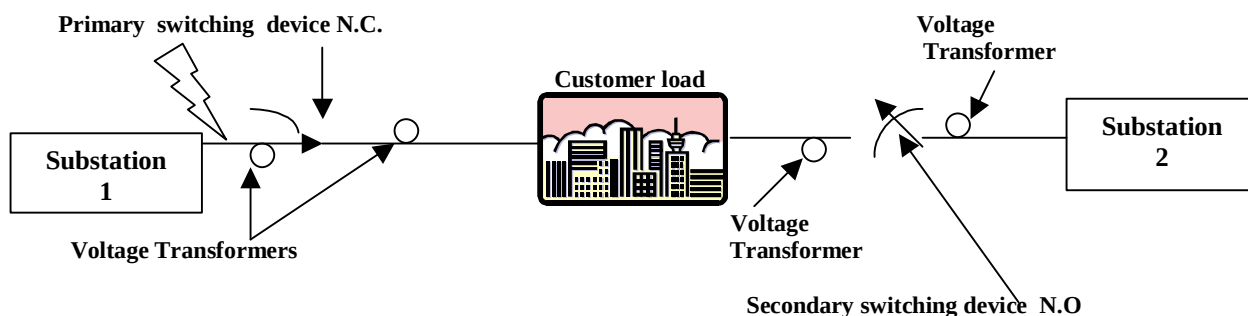

Figure 2
- a. A fault occurs between substation one and the primary switching point (see Figure 2). After the circuit breaker in substation one goes to its reclose sequence and lockout, the PCD control in the recloser at the primary switching point will detect loss of voltage (27-3P) and open the recloser after a predetermined set time. At this point, the PCD control in this recloser will switch from the Primary settings program to Alternate 1 settings program. The recloser at the secondary switching point will sense loss of voltage (27-3P) from the load side and if voltage is still present (59-3P) at the source side (from substation two), it will close after a predetermined set time. The PCD control in this recloser will switch from the Primary settings program to Alternate 1 settings program. Restoration to the original state will be made manually.